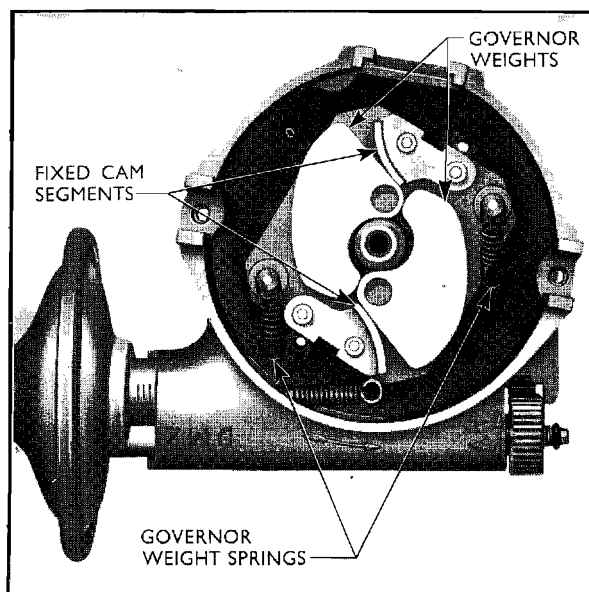

Fig. 5
5. Locate the governor weights on the action plate with the flat sides abutting the fixed cam segments and the cut-away portions nearest the shaft (see Fig. 5).